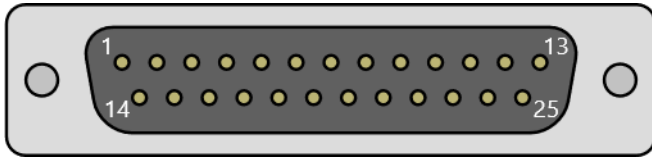
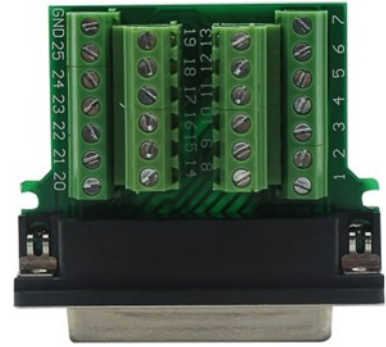

Figure 2.11
Figure 2.12
Step 2: Hold the DB25 connector so you are looking at the pins with them pointing at you or open the back shell of the DB25 field splice. If prodding the pins directly, orient the connector so the row with 13 pins is on top, now the upper left-hand pin is pin 1. See **figure 2.11** (above) for reference. If you decide to open the case of the connector, reference the pin number marking on the PCB (see **figure 2.12** above).